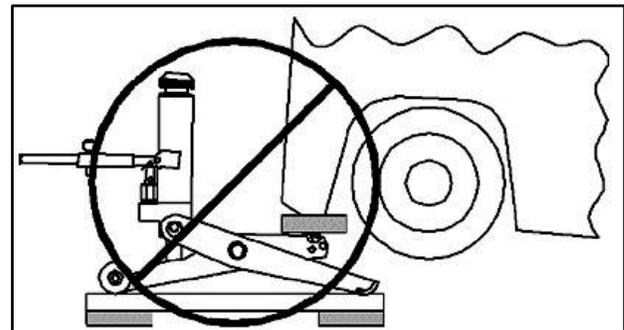

Fig. 7: Never increase lifting height
- The serrated lift pad or lift arm notch must be in direct contact with the forklift (see Fig. 7)
- ⚠** Never increase the lifting height of the jack by putting wood, pads, cinder blocks, or any other objects above the lift pad or underneath the front footpad and/or wheels (Fig. 7).